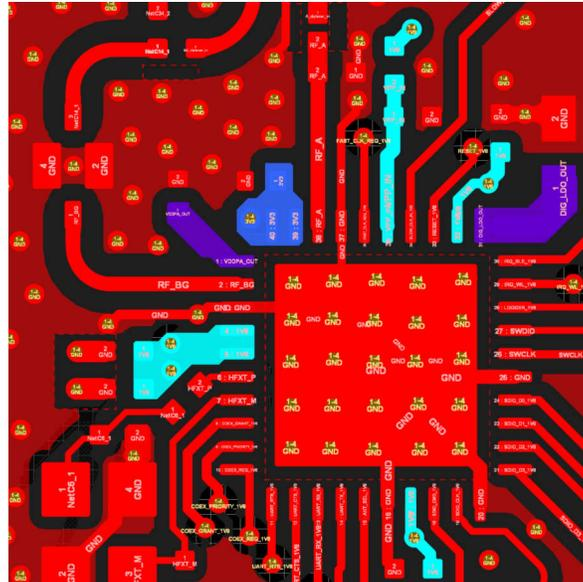

Figure 3-13. Reference Layout of CC33xx Power Supplies
- PA_LDO_OUT (pin 1): It is suggested to have the decoupling capacitor close to the device pin, as well as a thick enough trace to have a low impedance path to the capacitor. For a visual representation, see Figure 3-13.
Figure 3-13 is sampled from the BP-CC3301 design files.